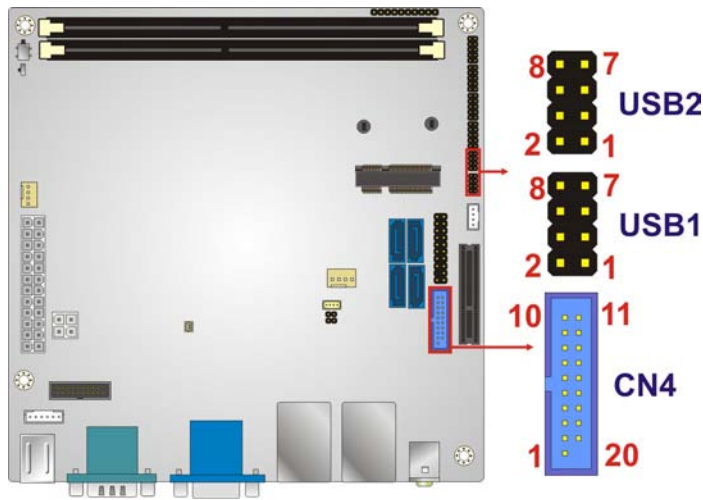

Figure 3-22: USB Connector Locations
- CN Location: See **Figure 3-22**